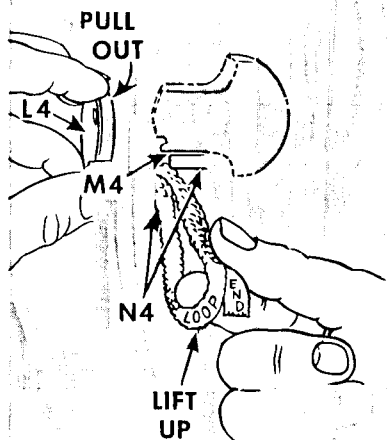

Fig. 59. Removing
11. Turn machine pulley over toward the operator, until the needle bar crank is in the position shown at **M4**, Fig. 59.
12. Lift wick LOOP up and off lower presser bar bushing and lift wick END out of oil pool behind needle bar bushing, as shown in Fig. 59.
13. Simultaneously push upward against wick and wick holder at **N4**, while pulling outward gently on hinge plate and cover **L4**, as shown in Fig. 59, removing hinge plate and cover with oil-removing wick and holder body from the machine.